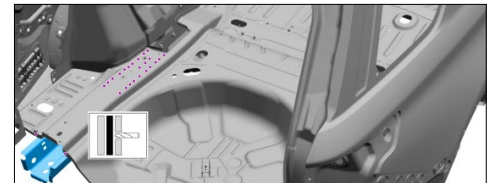

Figure 5
11. Remove the welds and side member, continuing to use the spot-weld drill bit (**Figures 5 and 6**).